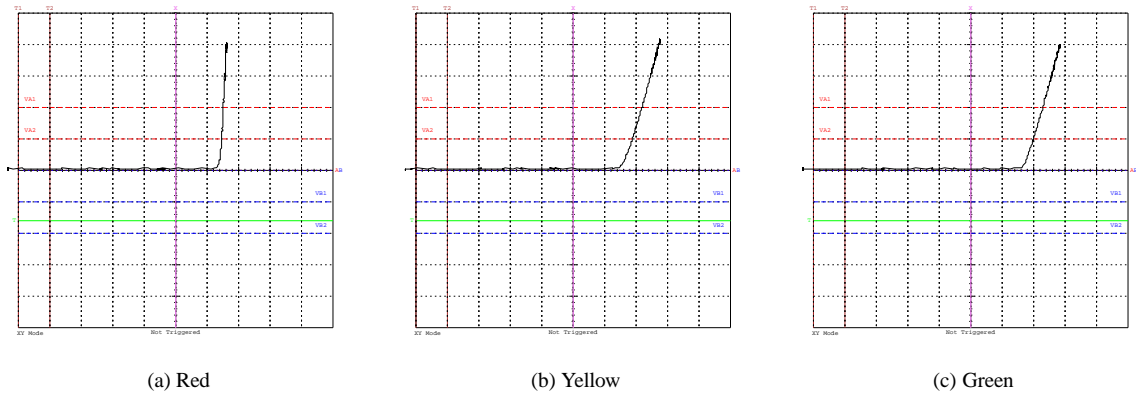

Figure 3: Light Emitting Diodes: X axis 1V/div, Y axis 16mA/div
Figure 3 shows the VI characteristics of three light emitting diodes, captured using the 'save to postscript' facility of the DSO-101 oscilloscope.
- The screen display can be captured and then incorporated in a document. For example, figure 1 was obtained by *screen capture*, which shows the control settings. Figure 3 was obtained by the *save to postscript* facility, which captures the screen area by itself.